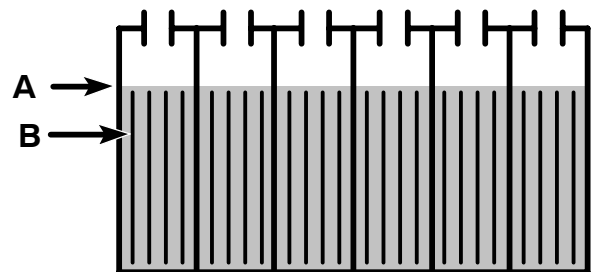

FIG. 21
The electrolyte level (A) should slightly cover the battery plates (B). Add distilled water as needed. **DO NOT OVERFILL**, the fluid may expand and overflow while charging. Replace cell caps before charging (Figure 21).